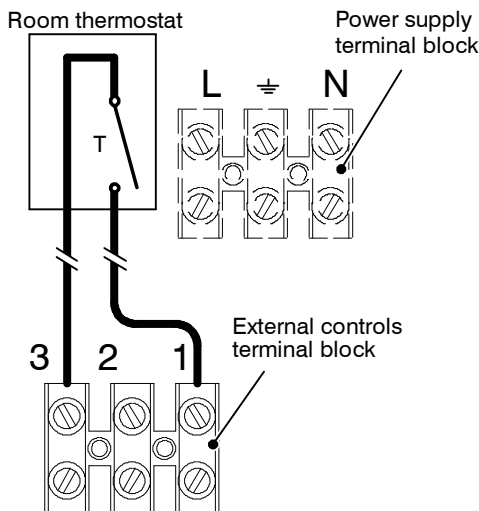

Fig. 6.13
- 8 Connect the room thermostat between terminals 1 and 3 as shown in Fig. 6.13.